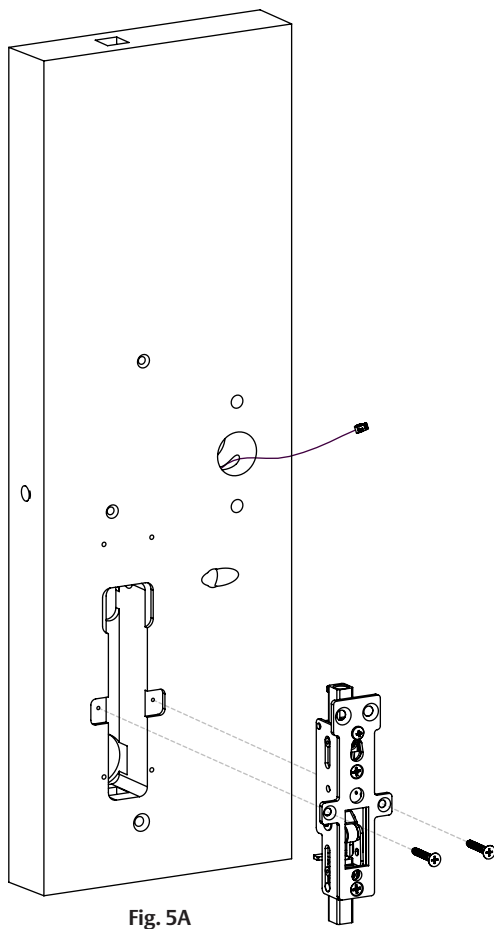

Fig. 5A
A. Wood Door (WD)
1. Install the inner case assembly with (2) #12 x 1" Phillips flathead screw (Fig. 5A).